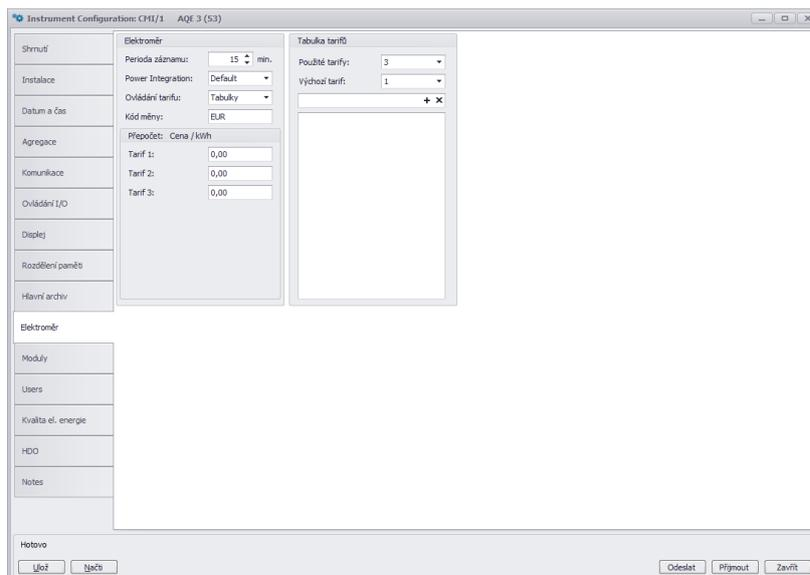

Figure 17: ENVIS.Daq — setting the electricity meter and tariffs and electricity prices.
2.4.8 Electricity meter (fig. 17)